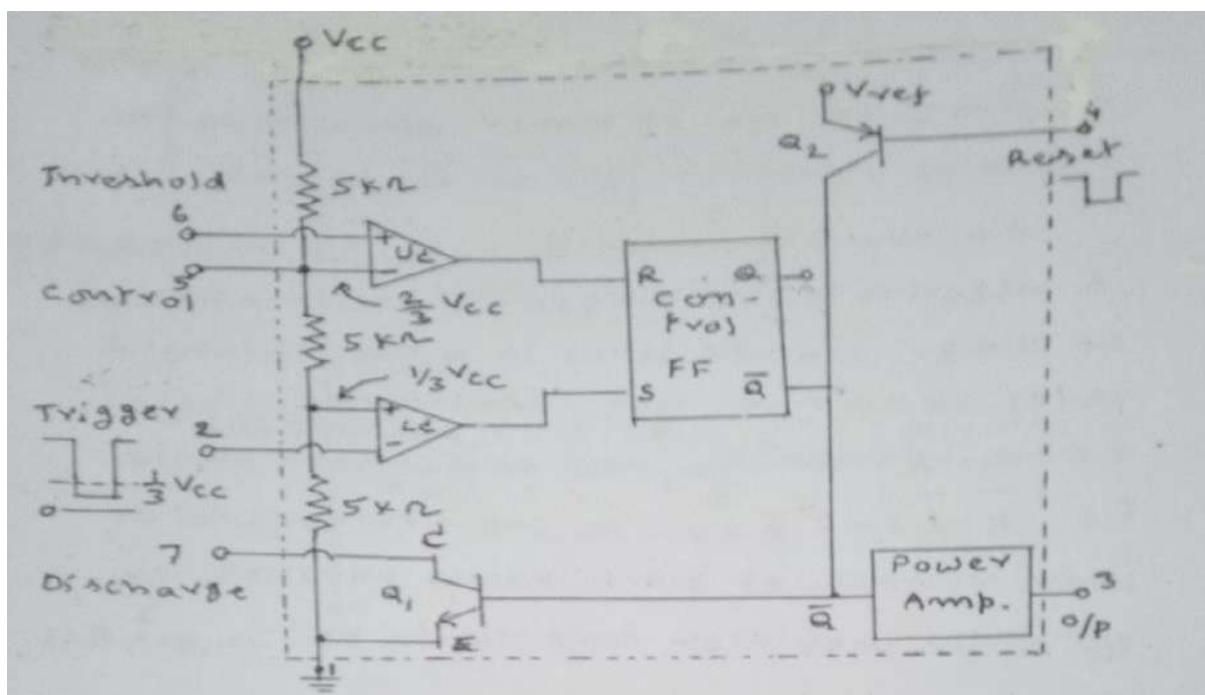

Fig. 1 (b): Functional diagram
Fig. 1 (b) shows its functional diagram. Three $5\text{ K}\Omega$ resistors form voltage divider. They provide a bias of $\frac{2}{3} V_{CC}$ to the **upper comparator (UC)** and $\frac{1}{3} V_{CC}$ to the **lower comparator (LC)**. In some applications, we apply modulation voltage at pin 5 to vary the time. In other applications, a capacitor ($0.01\mu\text{F}$) is connected between pin 5 and ground to by-pass noise or ripple from the supply. Q and Q' are outputs of control Flip-Flop(FF). Outputs of **UC** and **LC** are R and S inputs of FF respectively. **Power amplifier** is basically an inverter. Its output at pin 3 is output of timer. Since Q' is the input of inverter, output at pin 3 is Q.